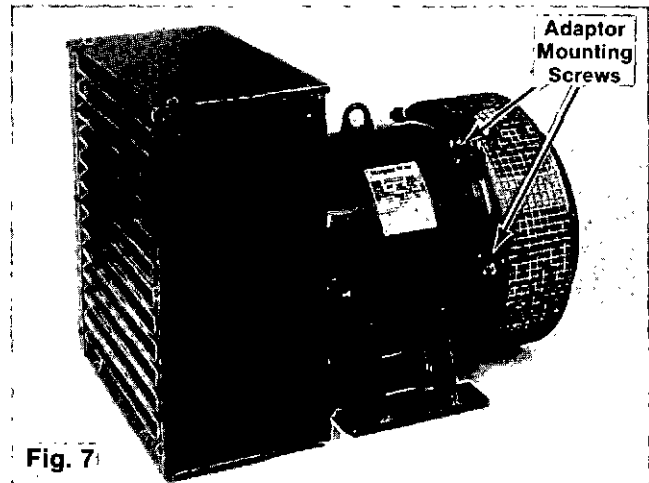

Fig. 7
5. Remove the adaptor mounting screws and washers (see figure 7). Remove the adaptor from the body assembly.